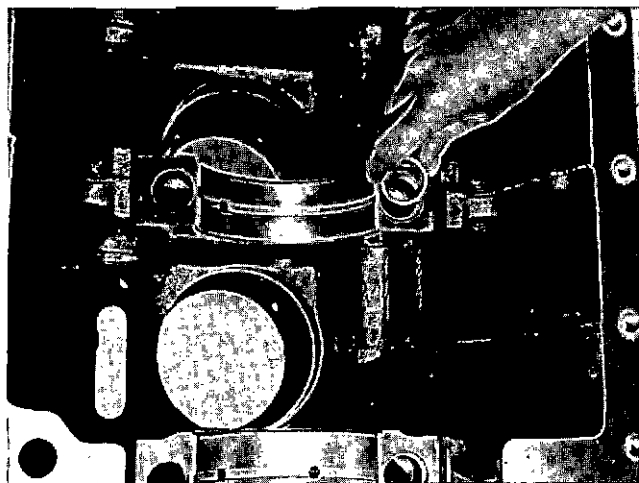

Fig. 14-3 (N11402). Install The Dowel Ring.
4. Install the main bearing dowel rings, Fig. 14-3.